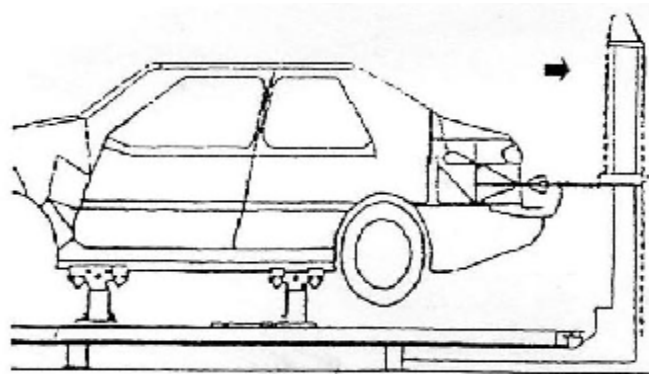

Fig. 13 Pulling of the Rear Parts
- I The straightening of the rear of the vehicle is shown in Fig. 13.